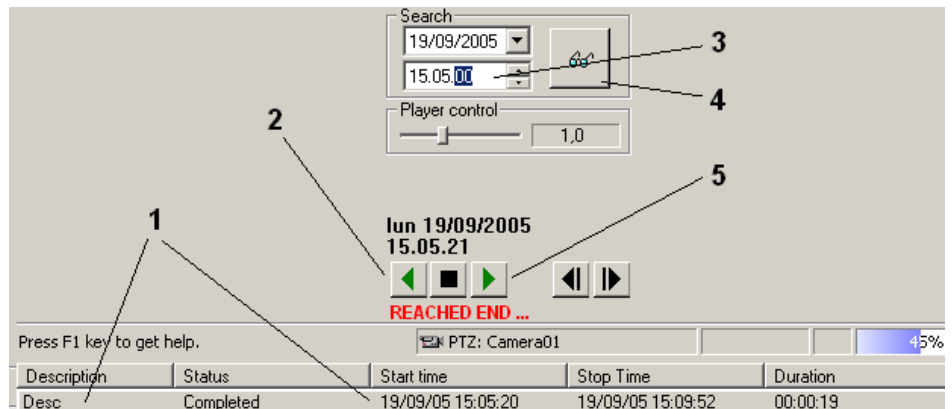

Fig 26 How to view pre-trigger images in the MX player
- In case of recorded video with a pre-trigger, note that the player does not directly show the pre-trigger time. For example, supposing you have recorded a video at time “t0” with pre-trigger set at “t0-pt”, the player initially starts at “t0” ignoring the preceding part. In order to show the images from the very beginning, you need to click the left (back) green arrow and reach “t0”, then manually enter a new starting time (earlier enough to get the previous images, up to “t0-pt”) in the search field. This procedure (see Fig 26) unlocks the pre-trigger sequence to be shown and searched.